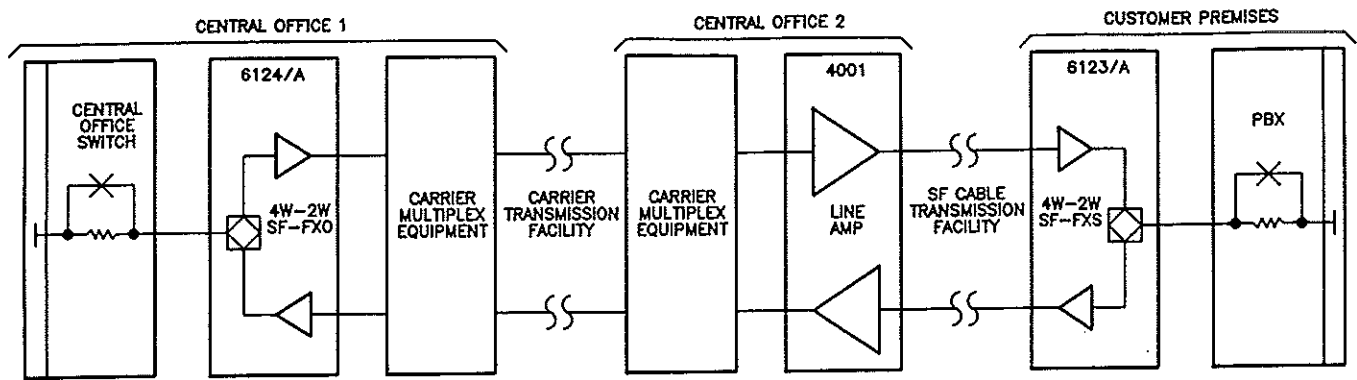

figure 2. Typical foreign-exchange (FX) application of 6124/A
2.02 The 6124/A module is well suited to a variety of 4wire-to-2wire SF-to-FXO and SF-to-office-end-OPS applications, both network-terminating and otherwise. In applications where the serving telephone company uses facility-side SF signaling, the module fulfills Registered Facility Interface Codes OC13A, OC13B, OC13C, OL13A, OL13B, and OL13C. Figures 2 and 3 show typical FXO and OPS applications of the 6124/A.